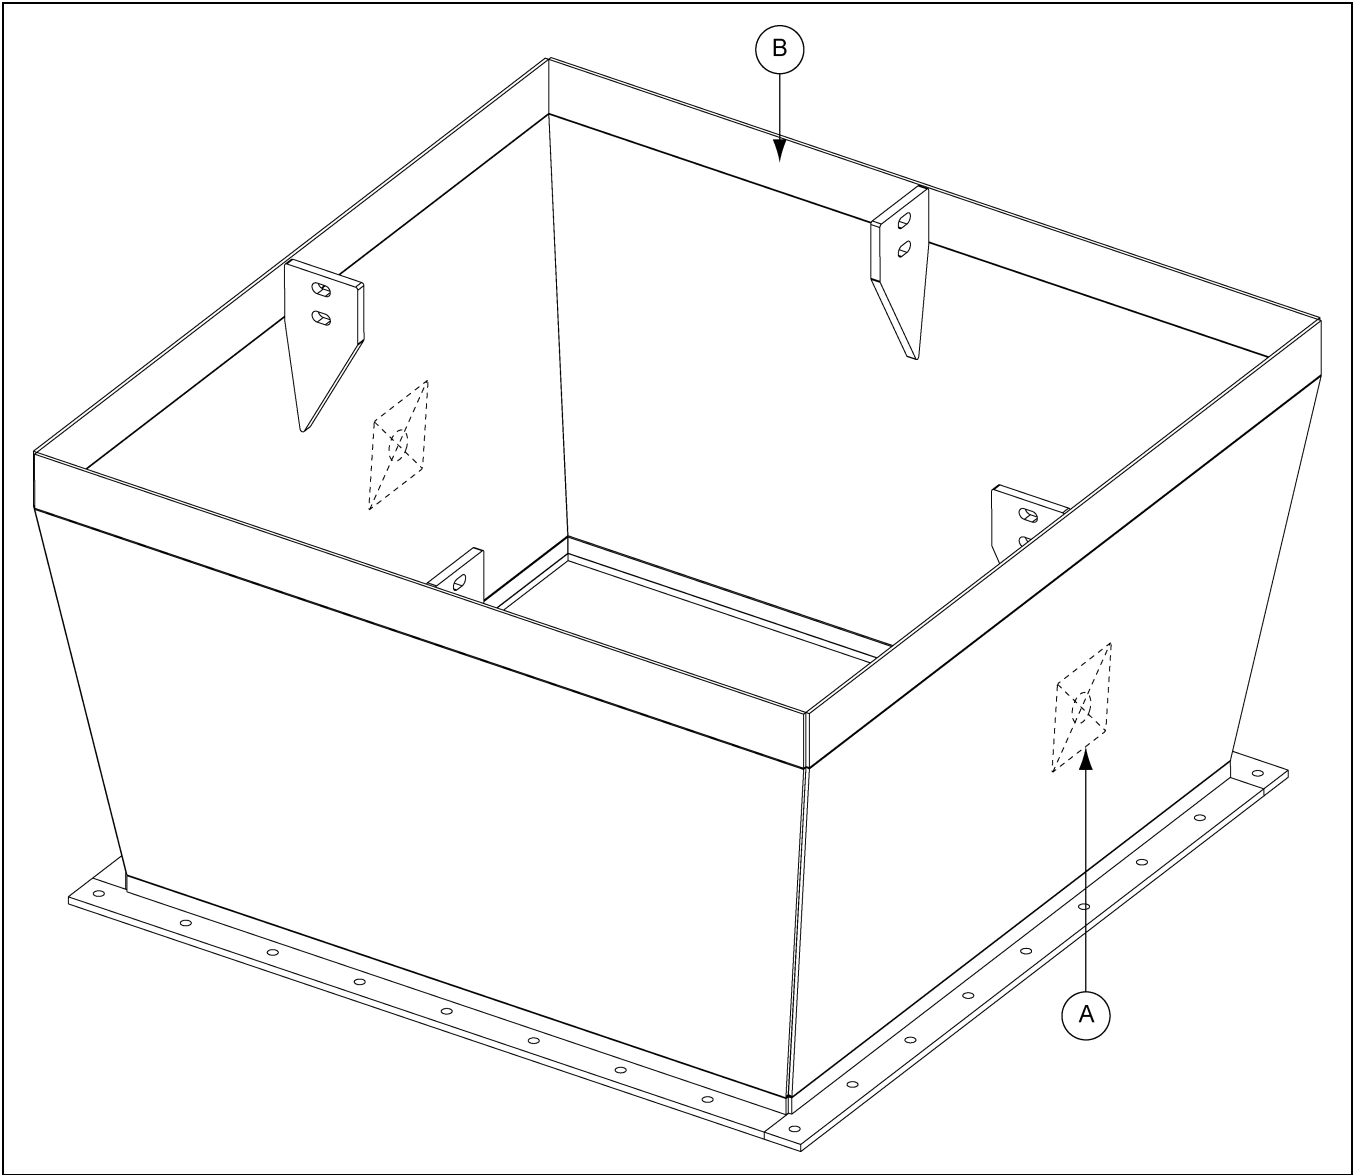

Figure 6C
- 1. Locate the traced outlines (A) that were created on the inside wall of the center well (B) during the track installation. (See Figure 6C.)